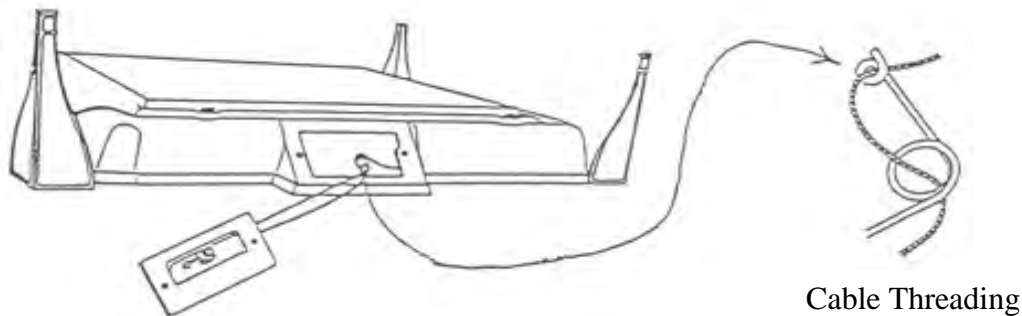

Fig. A-2 Primary Air Regulator System Ready to be Installed
STEP 6: Install the primary air regulator system on the cemented flange of the inverted stove bottom with the hinged side down Fig. A-2 (protruding air rod left). Secure with 2 each, Phillips round head machine screws ($\frac{1}{4}$ -20 x $\frac{5}{8}$). Turn the stove bottom over onto its legs.